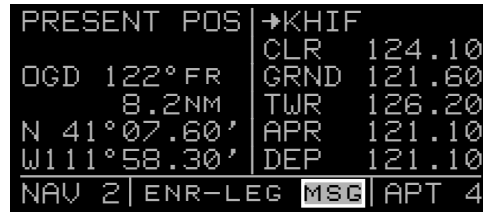
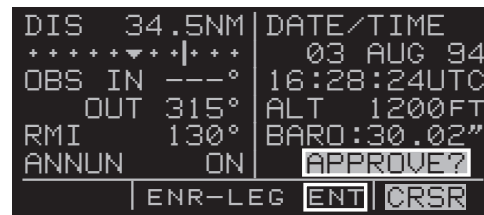

Figure 3-35
Figure 3-36
The last three spaces of segment (E) are usually blank but may contain the characters **MSG** or **ENT**. The characters **MSG** in figure 3-35 indicate that there is a message to be viewed on the Message page - accomplished by pressing **MSG**. The characters **ENT** will flash in these spaces when it is necessary to press **ENT** to complete various kinds of operations (figure 3-36).
There are times when the cursor is flashing. Figure 3-36 shows an example of how a white border is used in this Pilot's Guide to depict a flashing cursor (over **APPROVE?**). In addition, figure 3-36 shows an example of how a white border around normal text in this Pilot's Guide is used to depict normal characters flashing. The letters **ENT** are flashing but are not in inverse video.